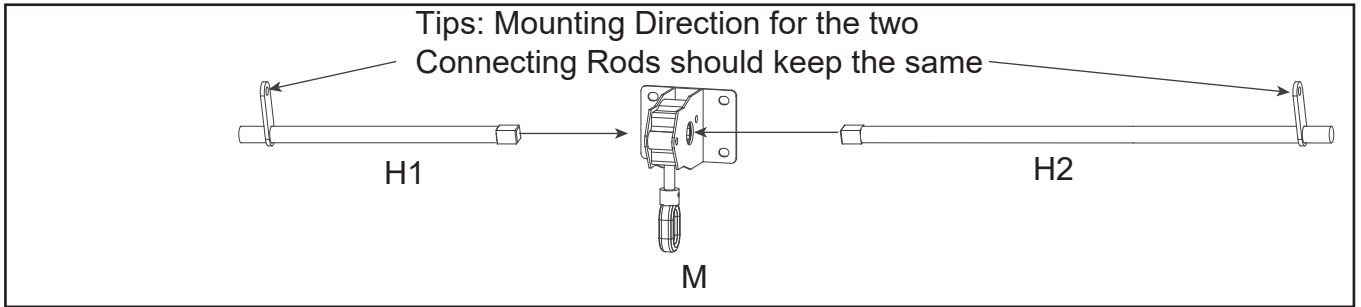

Figure 7.1
7. Insert one side of the two Connecting Rods (H1/H2) into the Spinner (M) and the other side into the Spinner (M), then attach the Spinner (M) to the Rear Lintel (F) and secure it with the Bolts (AA) and Washers (HH). Finally the other end of the Connecting Rods (H1/H2) is attached to the Lintels (B/C/E) using Bolts (CC), Washers (GG/HH) and Nuts (FF). See Figure 7.1- 7.3.